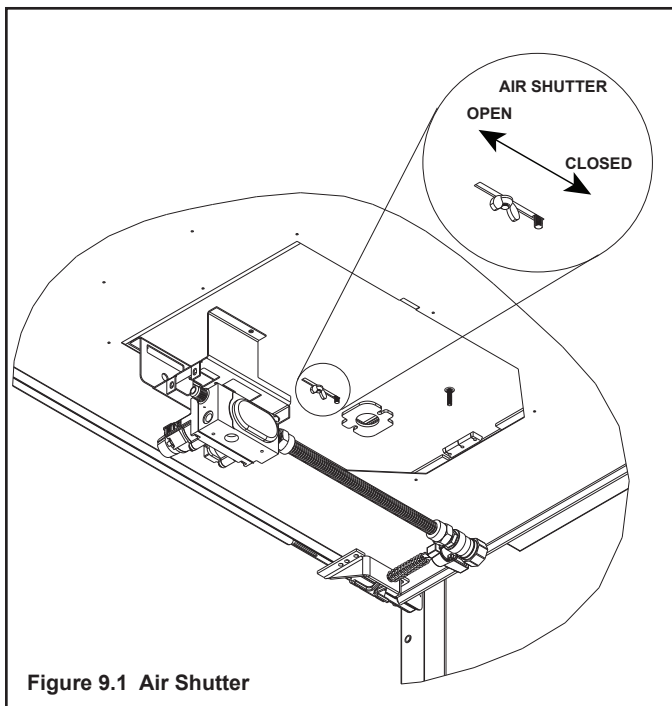

Figure 9.1 Air Shutter
- Move the wing nut to adjust the air shutter. See Figure 9.1.